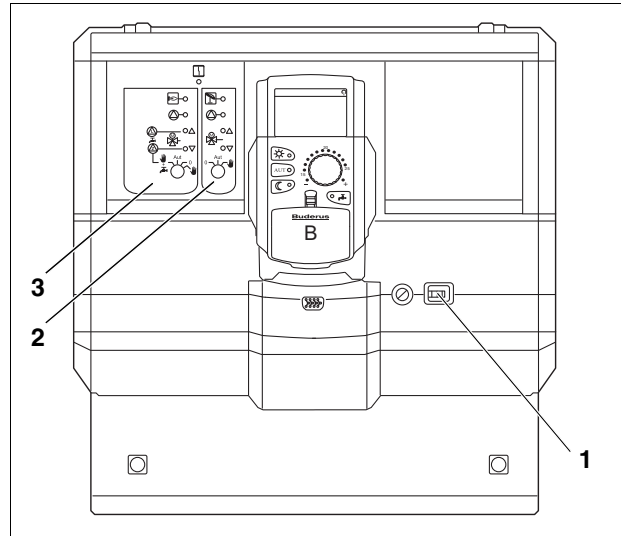

Fig. 25 Logamatic 4121
- Switch on the control unit via the ON/OFF switch (→ Fig. 25, [1]).
- Set heating circuit 1 (poss. + DHW) (→ Fig. 25, [3]) at selector switch to manual or .
- Set heating circuit (→ Fig. 25, [2]) at selector switch to manual .